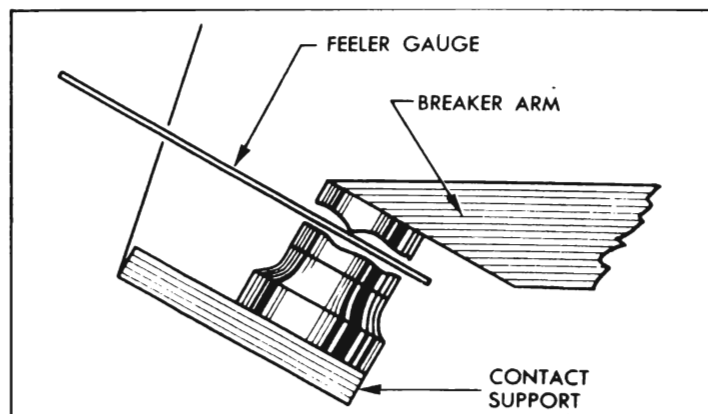

Figure 10-64—Incorrect Point Opening Obtained with Feeler Gauge
*new.* The opening of used or worn contact points cannot be measured accurately with a feeler gauge because of the irregular shape of contact surfaces. The gauge measures between high spots on the points instead of measuring the true point opening. See figure 10-64.